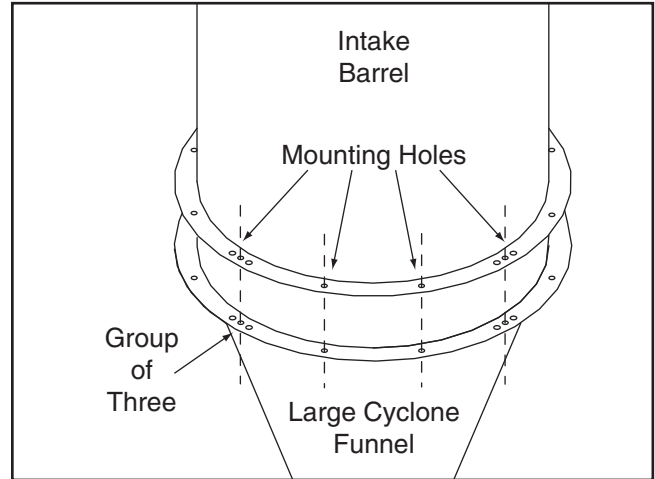

Figure 22. Intake barrel and large cyclone funnel mounting holes aligned.
- With assistance, place the intake barrel over the large cyclone funnel and align the mounting holes as illustrated in **Figure 22**.
13. Install the four cyclone mounting brackets with (8) $\frac{3}{8}$ "-16 x $1\frac{1}{4}$ " hex bolts, (16) $\frac{3}{8}$ " flat washers, and (8) $\frac{3}{8}$ "-16 lock nuts (see **Figures 22 & 24**).